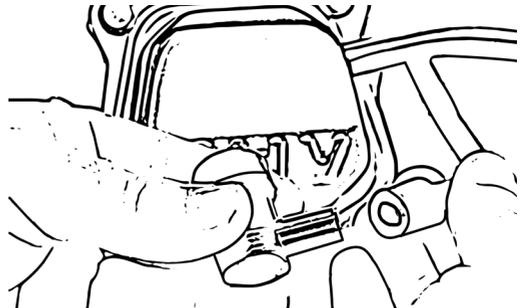

Figure 37
- Firmly push the additional plug connector onto the cable and turn the plug connector clockwise to tighten, Fig. 37.